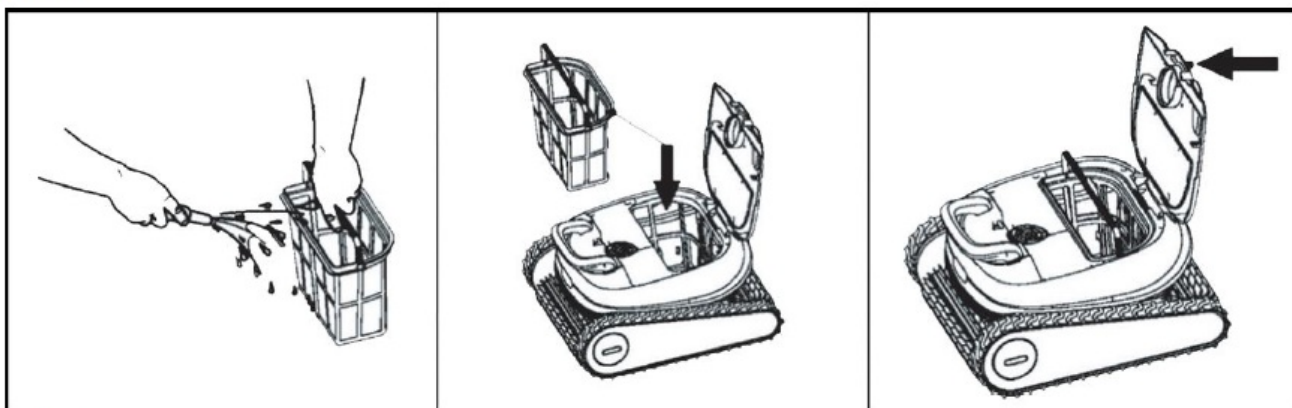

Fig. 6
- Please remove all dirt and water from inside the pool robot (Fig. 6).